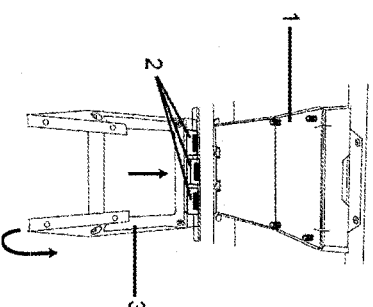

FIGURE 52
- 3.) WITH THE TOP DVD MOUNTING BRACKET INSTALLED (1), SLIDE THE THREE TABS (2) ON THE FORWARD SIDE OF THE BOTTOM DVD MOUNTING BRACKET (3) SO THAT THE TABS GRIP THE ROOF BOW. (SEE FIGURE 52)